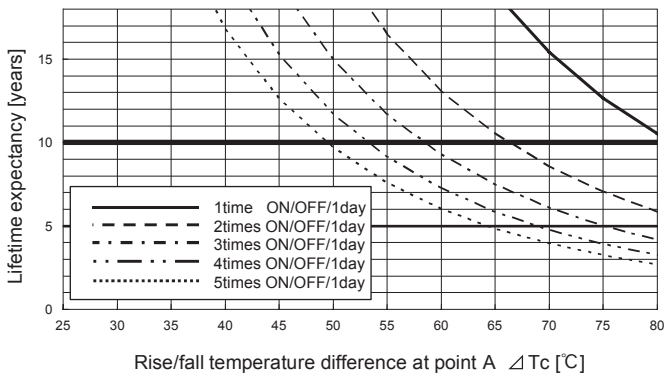
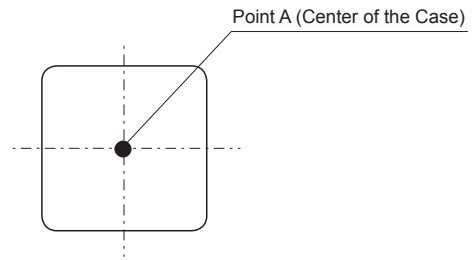

Fig.12.1 Lifetime expectancy against rise/fall temperature difference
Fig.12.2 Temperature measuring point (Top View)
- Product lifetime expectancy depends on case temperature difference (ΔT_c) and number of cycling in a day is shown in Fig.12.1 (It is calculated based on our accelerated process test result.) If case temperature changes frequently by changing output load factor etc., the above the lifetime expectancy design should be applied as well. And point A which is shown in Fig.12.2 must keep below 105°C .
- The warranty period is basically 10 years, however it depends on the lifetime expectancy which is shown in Fig.12.1 if it is less than 10 years.